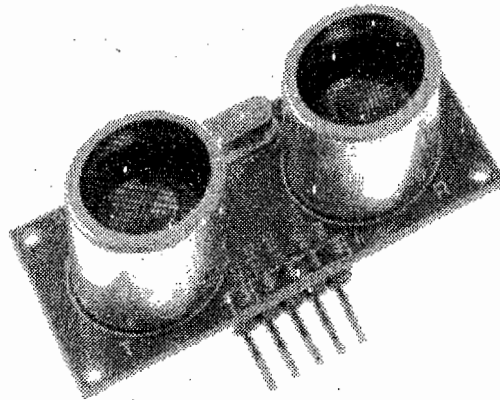

Fig. Q.9.2 Mini ultrasonic motion detector
- These motion sensors are available in both active and passive types. In theory, an ultrasonic detector sends out high-frequency sound waves that are reflected back to the sensor. If any interruption occurs in the sound waves, the active ultrasonic sensor may sound the alarm. The mini ultrasonic motion detector is shown in Fig. Q.9.2.